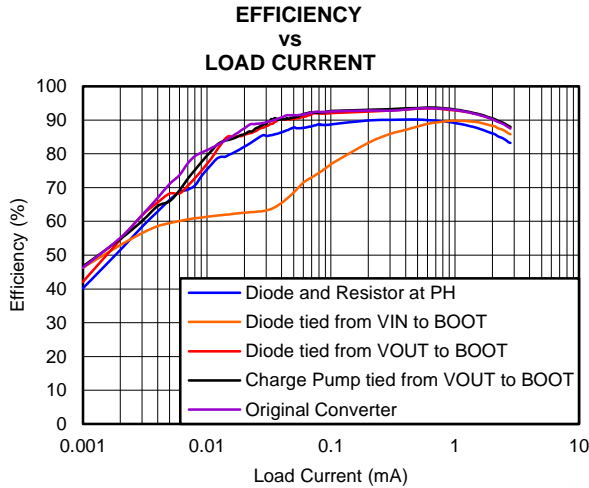
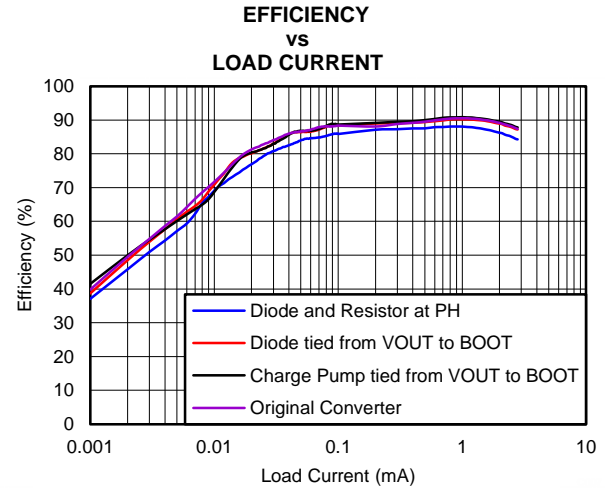

Figure 13. Efficiency With 8-V Input
Figure 14. Efficiency With 12-V Input
Figure 13 shows the efficiency of four additional solutions together with the original converter when $V_{IN} = 8$ V and Figure 14 shows the efficiency without solution (1) when $V_{IN} = 12$ V, because solution (1) cannot operate with input higher than 8 V as described in Section 4.2.
The efficiency of solutions (1) and (4) is lower than the efficiency of solutions (2) and (3) (Figure 13 and Figure 14). Solutions (2) and (3) have the closest efficiency performance to the original converter.